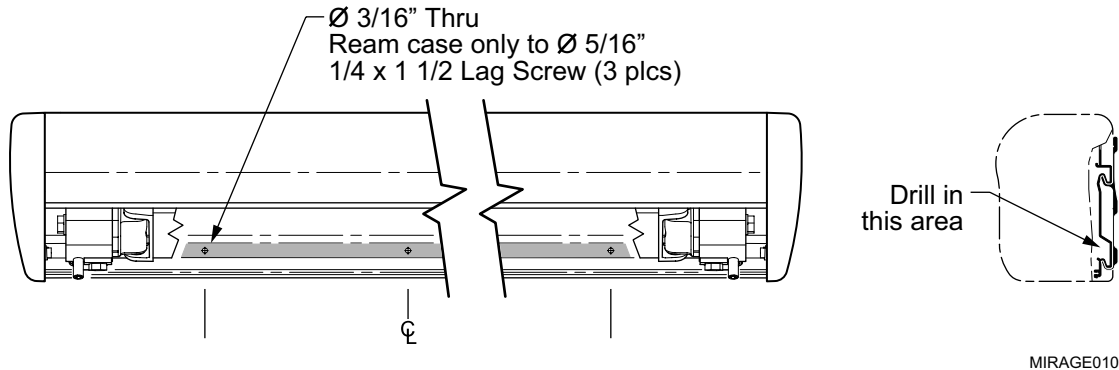

Figure 8. Securing the Awning.
3. Drill three (3) 3/16" holes through the case, mounting plate and into wall (do not go through interior surfaces of wall) in the approximate areas shown in Figure 8.
5. Attach the awning case to the mounting plate and wall using three (3) 1/4 x 1 1/2 lag screws.